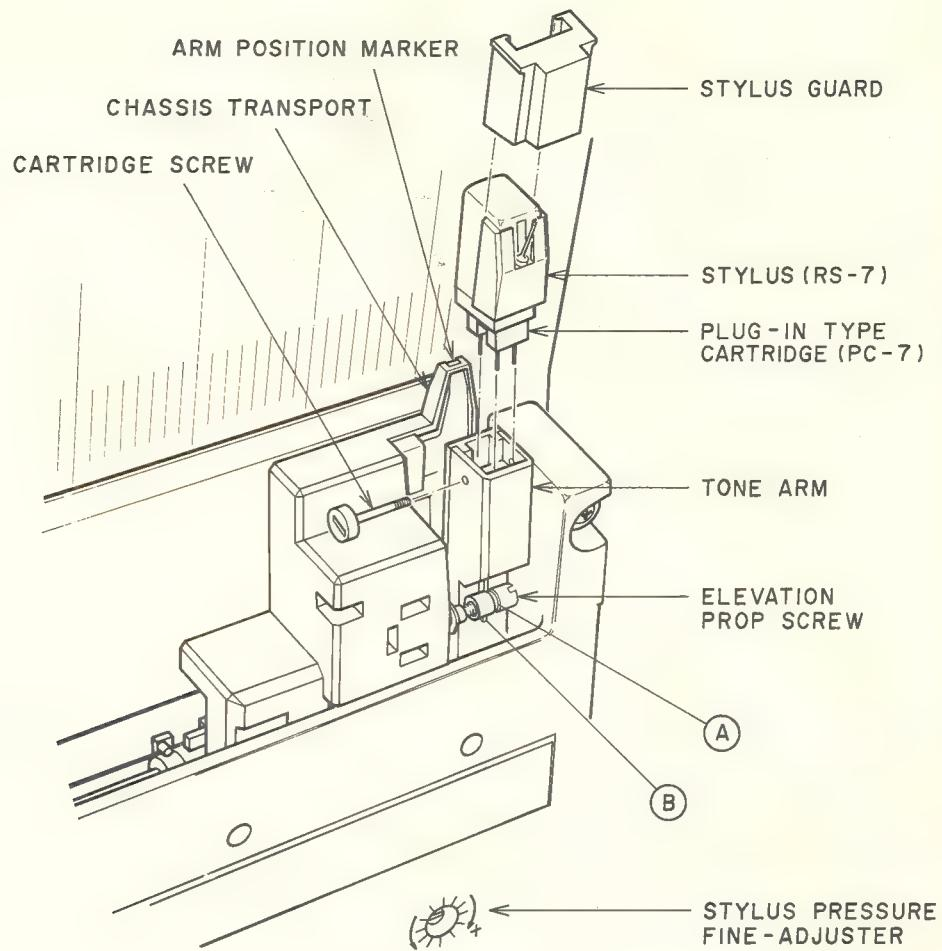

Fig. 6-1 Outside View of Moving Base Block
6-1. ORDINARY MECHANICAL ADJUSTMENTS (Refer to Fig. 6-1)
Pressure Fine-Adjuster located below the Tone Arm section shown in Fig. 6-1.
6-3. ARM ELEVATION POSITION ADJUSTMENT (Refer to Fig. 6-1)
- 1) This adjustment is not necessary unless the Arm Elevation (A) on Elevation Position Screw is replaced or mis-adjusted.
- 2) Hold the Tone Arm with the Chassis Transport and separate the Elevation Prop Screw from the Tone Arm. Then bring the Elevation Prop Screw close to the Tone Arm, and adjust the Elevation Prop Screw with a flat type screwdriver to the place where the position of the notch Ⓐ on the Elevation Prop Screw coincides with the projecting part Ⓑ on the Tone Arm as shown in Fig. 6-1.